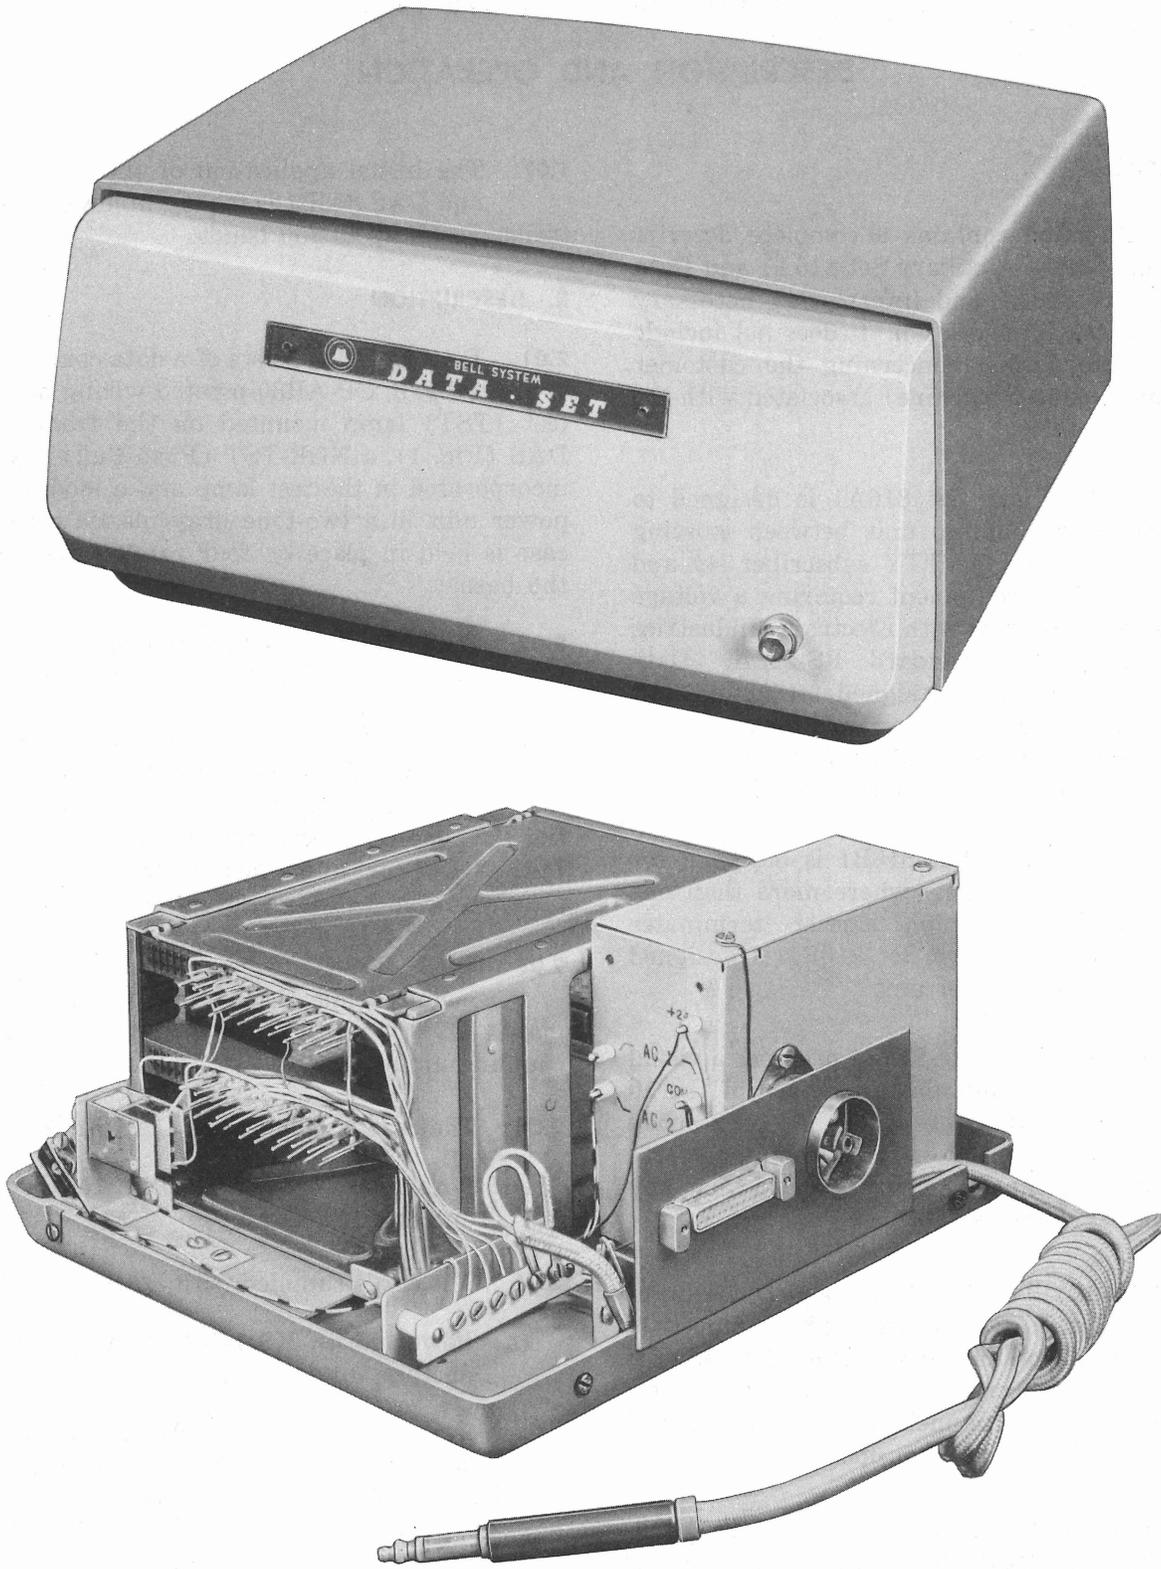
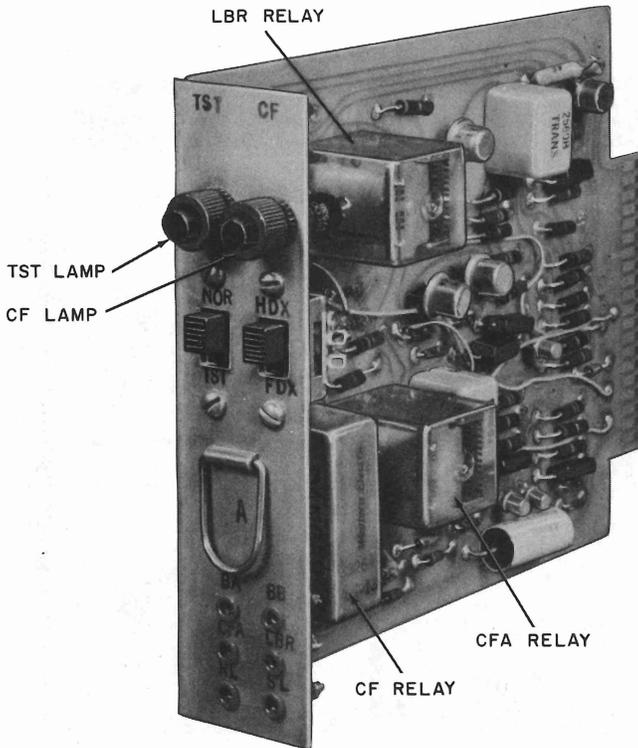

Fig. 1 — Data Auxiliary Set 816A1, Cover Removed
Fig. 3 — Data Coupling Unit
1.02 Data Auxiliary Set 816A1 is designed to provide a coupling unit between existing facilities using 130-type TTY subscriber set and customer provided equipment requiring a voltage interface that conforms with Electronic Industries Association (EIA) Standard RS-232A. Data Auxiliary Set 816A1 is designed for single unit installations (Fig. 1). It is designed for customers having a single channel of voice frequency (VF) telegraph carrier (43A1 channel terminal).
2.01 DAS 816A1 consists of a data coupling unit (Fig. 3, CP-AR30 printed wiring board), a test (TST) lamp mounted on the front of the DAS (Fig. 1), a NOR-TST (Push-Pull) key (S3) incorporated in the test lamp and a modified 18A power unit in a two-tone gray plastic case. The case is held in place by four retaining screws in the base.